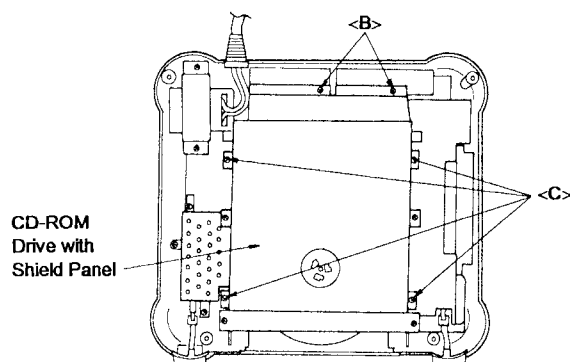

Figure 2
- (1) After removing the top case, remove two screws (2.6 × 6 mm) as shown in Figure 2.
- (2) Remove four screws <C> (2.6 × 8 mm) as shown in Figure 2.